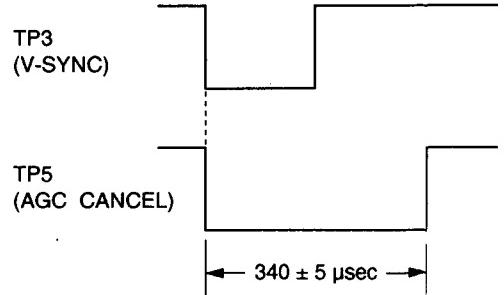

Fig. 5-2-6
- Adjust VR7 so that the AGC Cancel signal phase becomes 340 ± 5 μ sec. as shown in the Fig. 5-2-6.